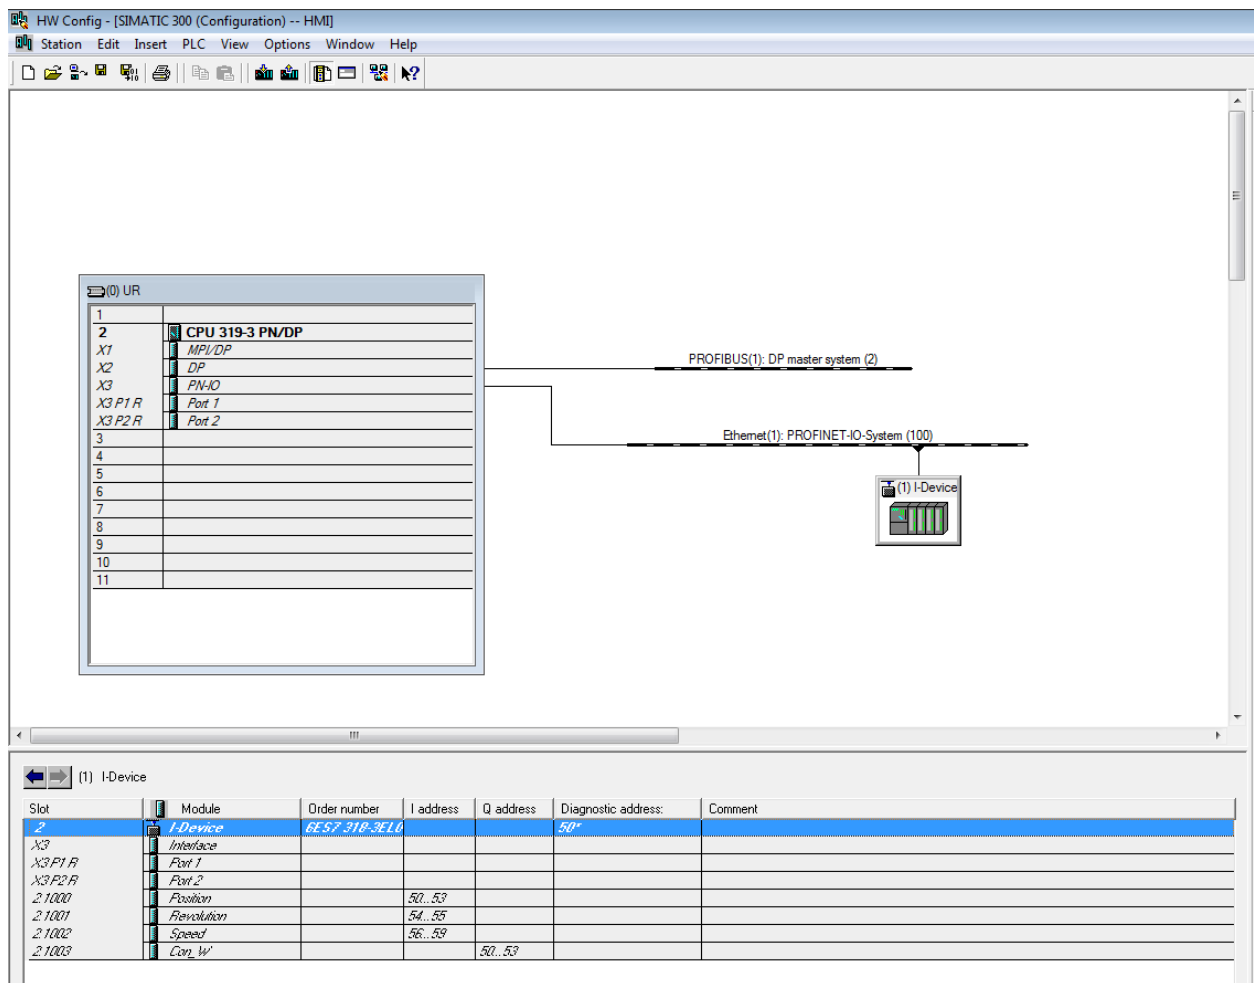

Figure 9: Hardware configuration of IO controller with I-device
6. Now the added I-device acts as any IO device with the defined transfer areas as its IO module as shown below. Assign appropriate addresses and names to these modules as shown in Figure 9.